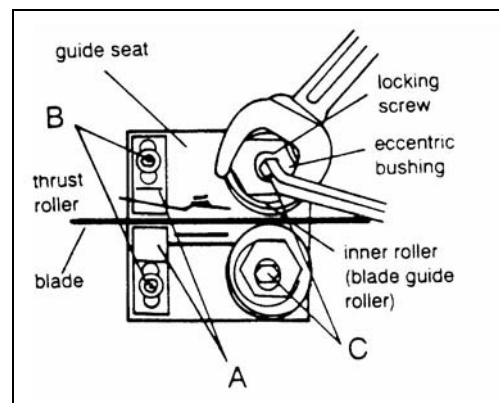

Fig. 9
2. Loosen blade guides (A – Fig.9) by loosening screws (B). Slide blade guides away from blade.
3. Loosen locking screws (C) by using a hex wrench.
5. Tighten locking screws (C).
6. Slide blade guides back into contact with blade and tighten screws (B).